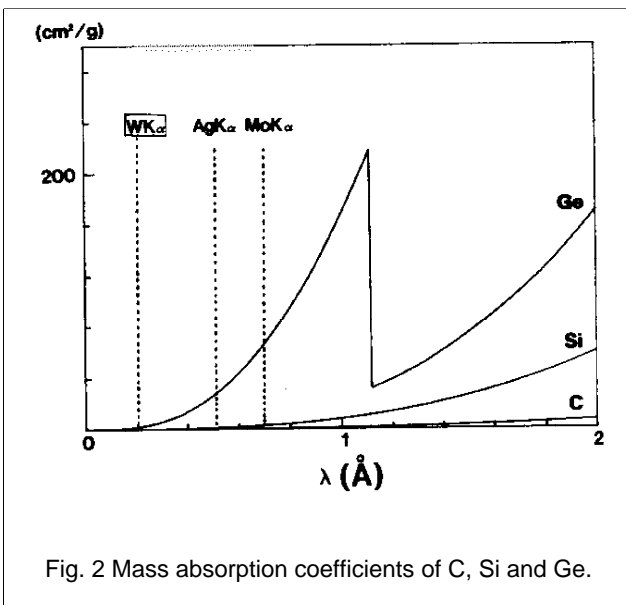

Fig. 2 Mass absorption coefficients of C, Si and Ge.
(3) $WK\alpha$ radiation allows a notably small absorption coefficient for samples. (Fig. 2)